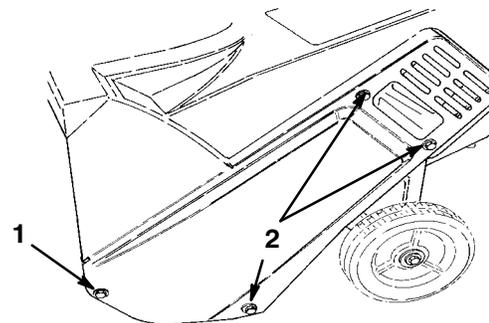

Figure 15
6. Remove the three self-tapping screws, one cap screw, one washer, and one nut that secure the left side cover to the snowthrower frame (Fig. 15).